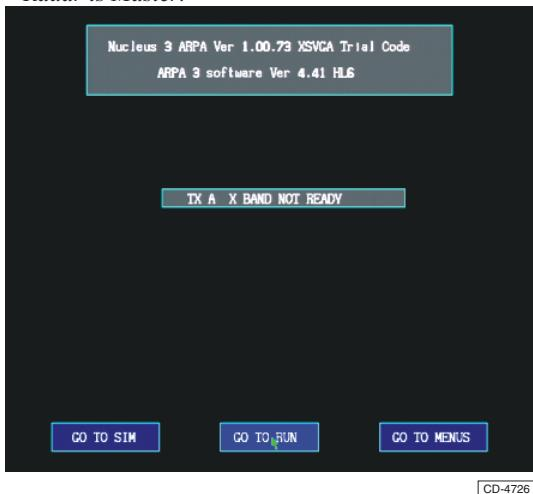

Figure 2 - Standby Screen (No Interswitch, ARPA)
• Figure 2 - Four Target Simulation Mode - Known Scenario	2.10
- 28 The selected radar information is displayed on the screen and all functions are available for selection. (See Figure 2).